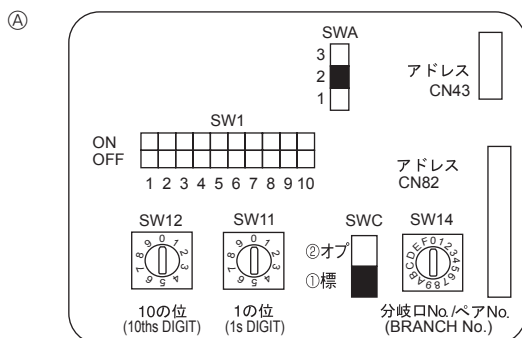

Fig. 6-4
6.5. Setting addresses (Fig. 6-4)
6.6. Switch setting for different ceiling heights (Fig.6-4)